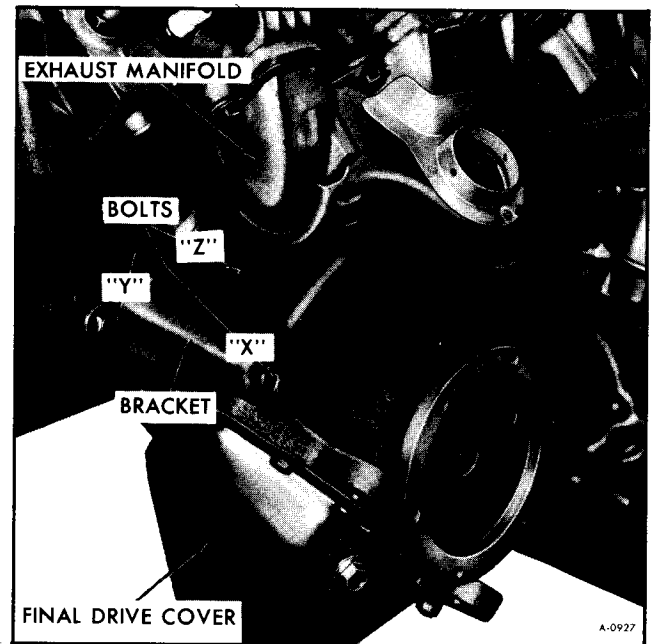

Figure 15—Disconnecting Final Drive From Engine
7. Remove bolt "X" and "Y" and loosen "Z". (figure 15)
7. Install bolt "X" and torque to 110 ft. lbs. Tighten and torque bolts "Y" and "Z" to 55 ft. lbs. (figure 15)